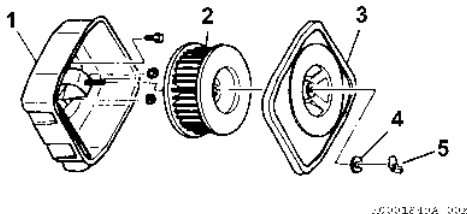

Figure 71
1. Remove the wing nut (**Figure 71, (5)**) and gasket (**Figure 71, (4)**).
2. Remove the air cleaner cover (**Figure 71, (3)**).
3. Remove the air cleaner element (**Figure 71, (2)**).
5. Clean the inside and outside of the air cleaner housing and cover (**Figure 71, (1, 3)**).
6. Reinstall (or install the new) air cleaner element (**Figure 71, (2)**) into the air cleaner housing.